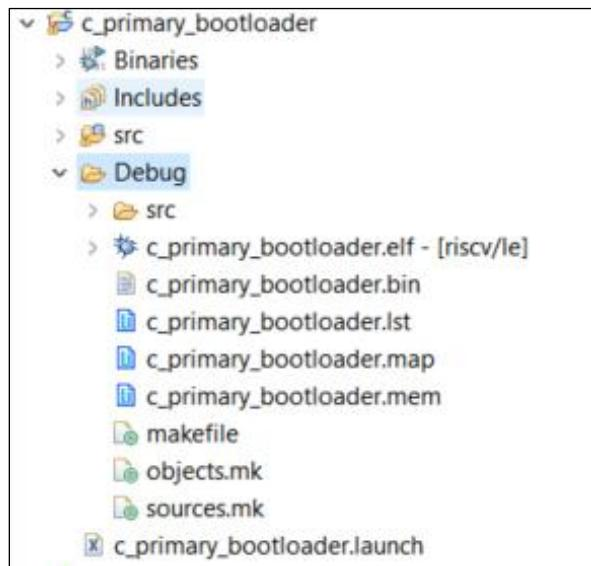

Figure 8.30. Bootloader Binary Created
31. This creates a debug folder as shown in Figure 8.30. The binary created is named as c_primary_bootloader.mem. This goes as a part of system memory in Propel Builder design.